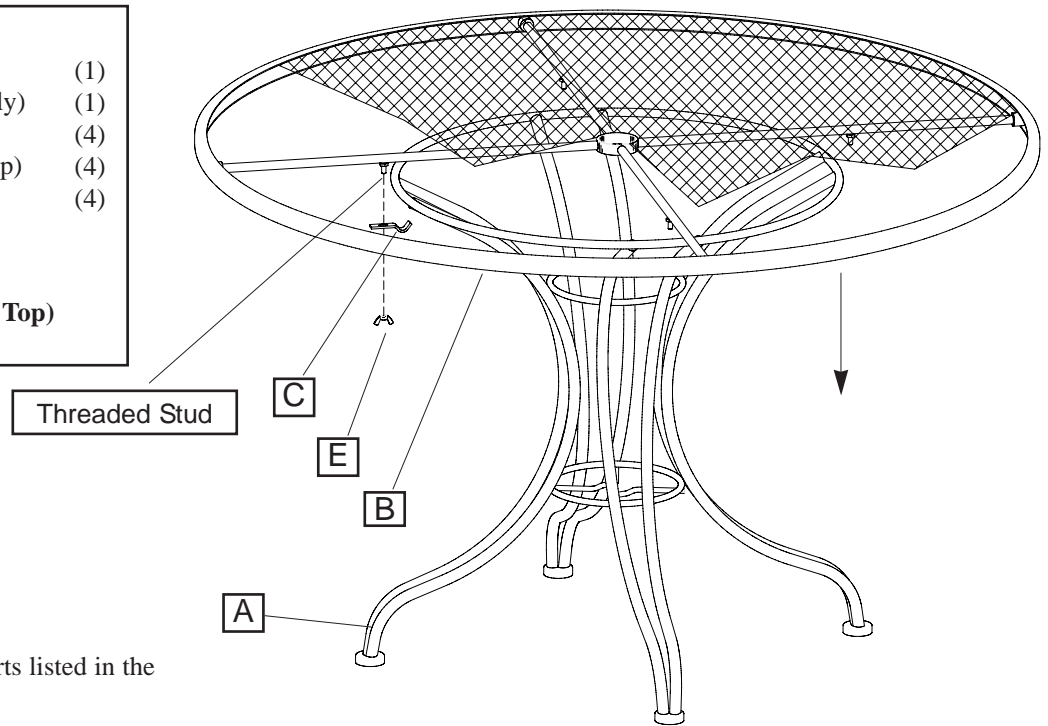
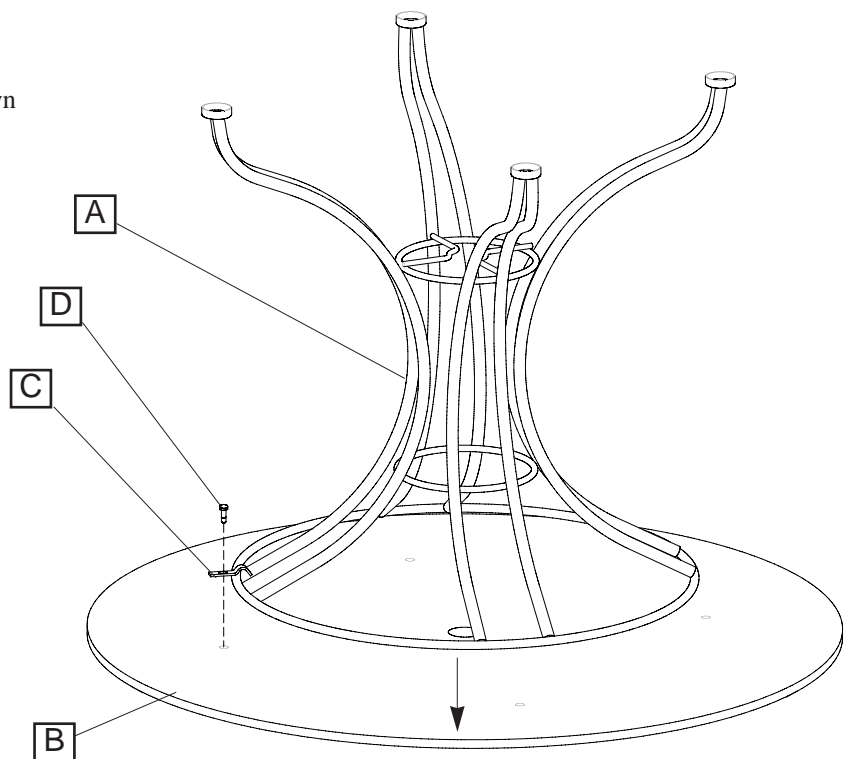

Figure 1: Top Assembly (Mesh)
Figure 2: Marble/Slate Top
Step 3: Place top on base and attach using attachment brackets (C) and either wing nuts (E) or bolts (D) as shown in Figure 1 or Figure 2.